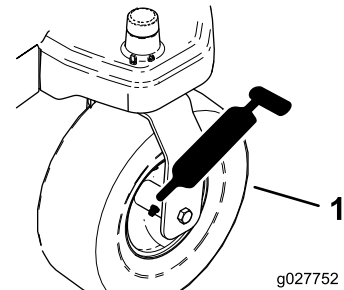
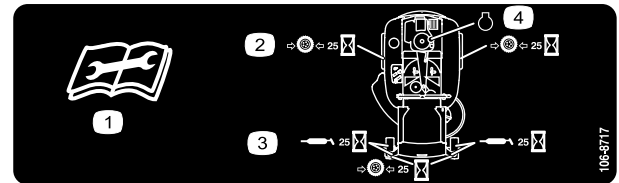

Figure 24
Figure 25
3. Clean the grease fittings (Figure 24 and Figure 25) with a rag.
4. Connect a grease gun to each fitting (Figure 24 and Figure 25).